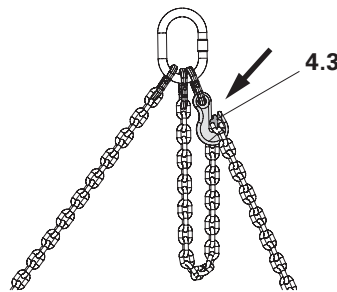

Fig. 18
3. Grasp the appropriate chain link (4.3) and hook it into the chain shortener (4.2). (Fig. 18)